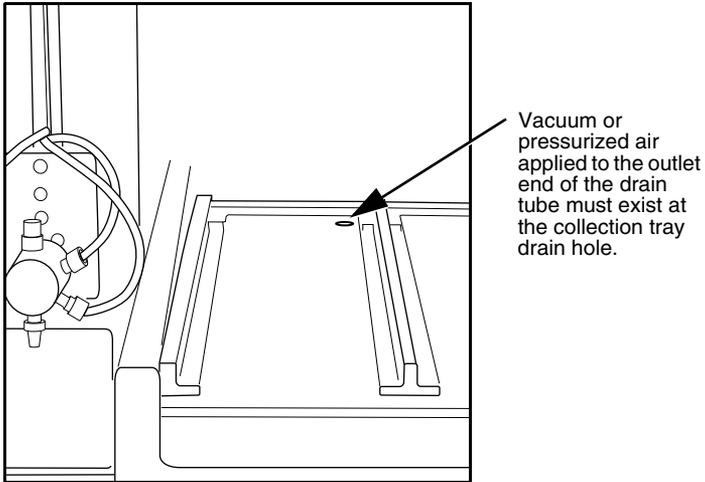

Figure 2-5 Fraction Collector Drain
1. Test the Fraction Collector drain by connecting a vacuum or air supply source to the outlet end of the drain tube. Then, verify the presence of such vacuum or air supply source on the drain (Figure 2-5).